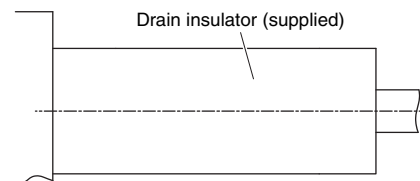

Fig. 3-63
- (2) After checking the drainage, wrap the supplied packing and drain pipe insulator around the pipe, then secure it with the supplied clamps. (Fig. 3-63)